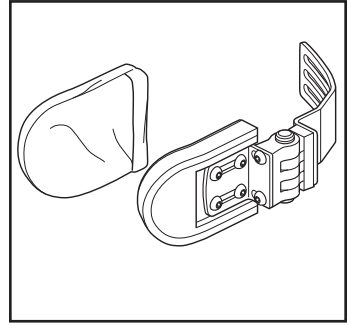

Fig. 1
3. Drill through the pad using four (4) $\frac{1}{4}$ -20x .375 screws.
4. Replace cover. *Fig. 1*